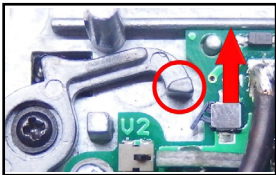

Fig. 1 - Keep cut off lever up during insertion processor unit
3. Move selector plate in position where is cut off lever the upper position - see Fig. 1. This is because of protection microswitch on processor unit against break.